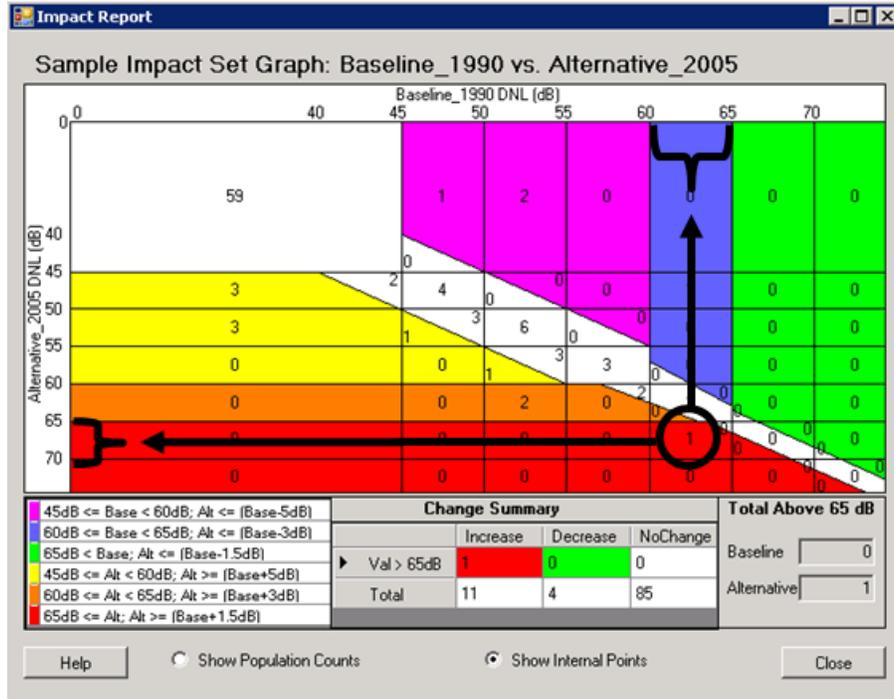

Figure 8-7 Impact Set Graph
4. Figure 8-7).
The impact set graph (Figure 8-7) illustrates either the population or number of receptors that fall into each of the categories described in Section 8.3.1.
Example (Figure 8-7):